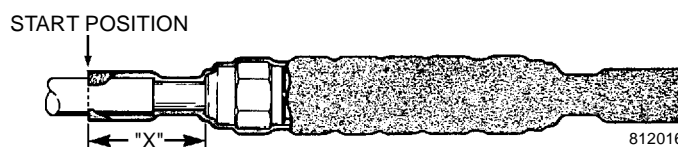
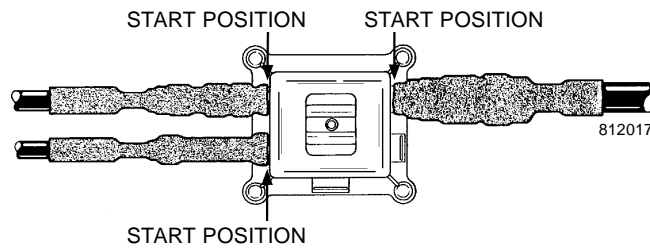

Figure 1 - Splice Connectors
Figure 2 - Taps, Amplifiers, Splitters
- 2.05 Position tubing per Figure 1 or Figure 2.